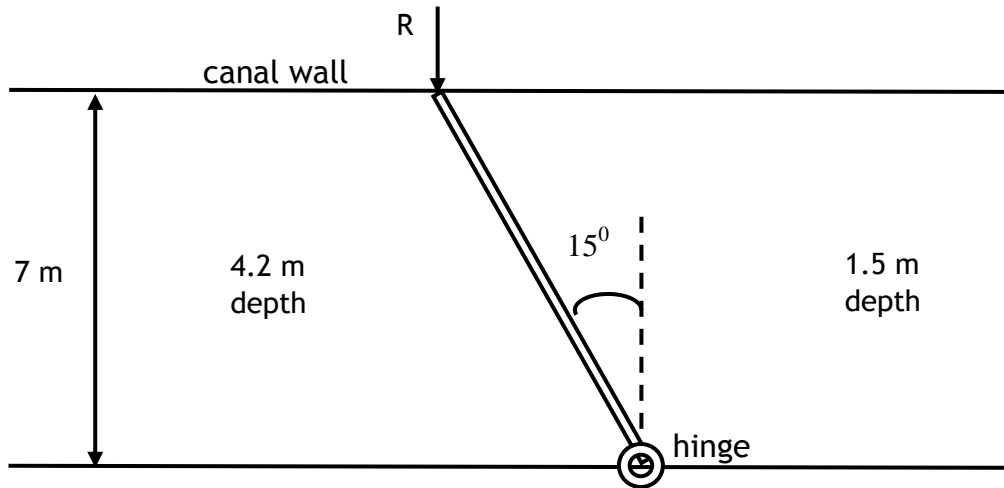

Fig Q8
8. A canal of width 7 m is sealed by a hinged lock gate as shown in Fig Q8. The fresh water is 4.2 m deep on one side of the gate and 1.5 m deep on the other side.